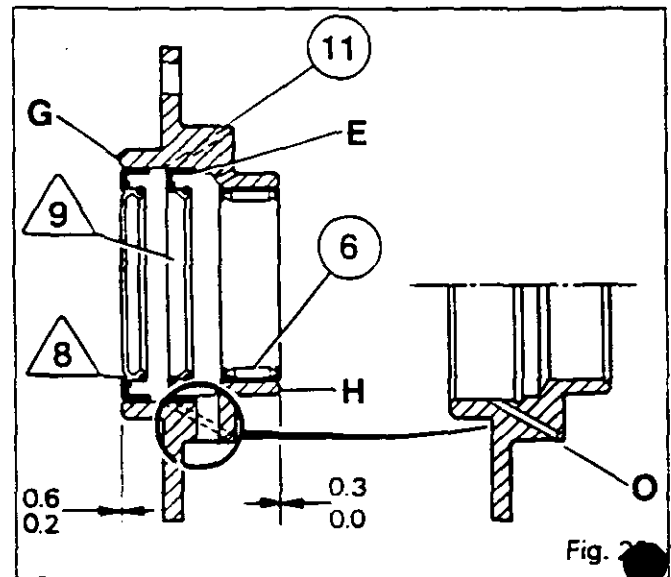
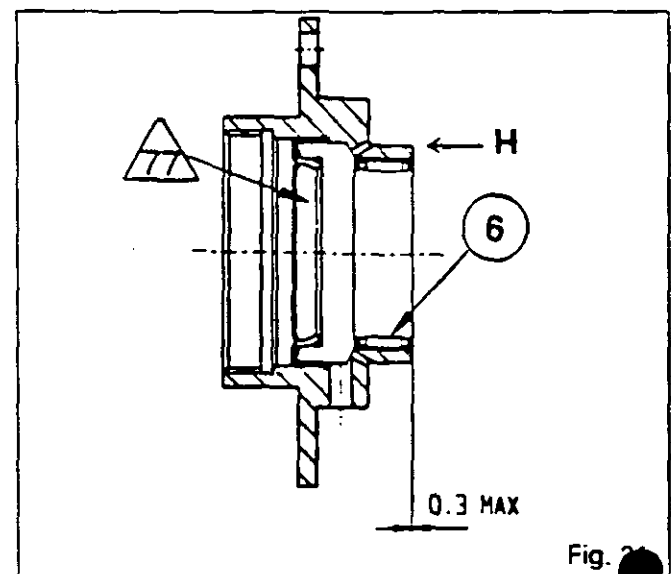
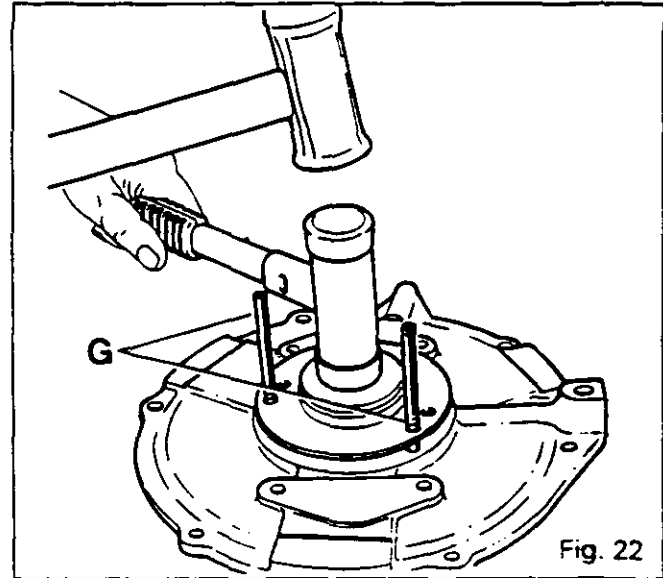
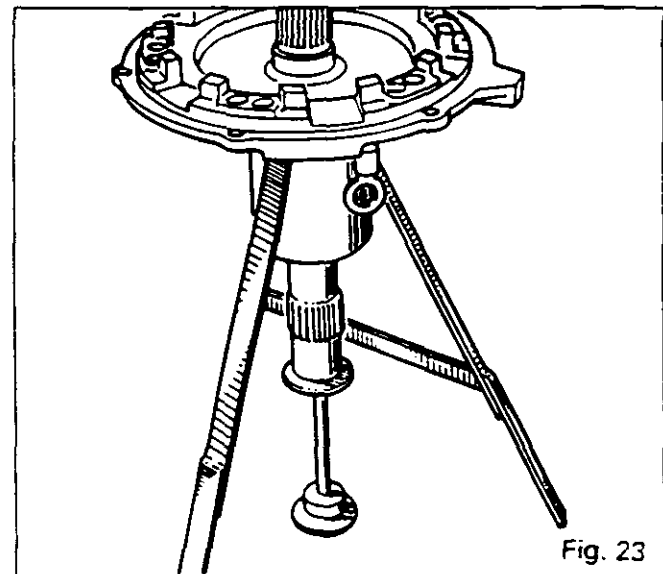

Fig. 20
Fig. 21
Fig. 22
Fig. 23
56. Clean the seal mating surface and the cover (13). Check that the plug (74) is fitted. Make sure that the lubrication passage is not obstructed.
57. Clean the support hub (11). Check that the lubrication holes are not obstructed.
- Tractor 3000** (Fig. 20)
- The needle bearing (6) at 0 - 0,3 from face H
- Tractor 3100** (Fig. 21)
59. After fitting the seals /8\ and /9\, make sure that orifices O are not obstructed (Fig. 20).
60. Coat the surface of the cover which contacts the support (11) with sealing compound.
61. Screw in two guide studs G. Position the support (Fig. 22) making sure that lubrication hole meets up with the corresponding passage in the cover (Fig. 22).
62. Fit the support into the cover (Fig. 22).
63. Remove the guide studs. Coat the screws (12) with Loctite 542, fit and torque to 14 - 20Nm.
64. Place the cover on a suitable support (Fig. 23).
65. Make sure that lubrication holes of the primary shaft (7) are not obstructed. Protect the splines to avoid damage to the seals /8\ and /9\ or /77\ (following type). Lubricate the shaft and slide it into the support from below. Retain the shaft in position using the locally made tool (Fig. 23).